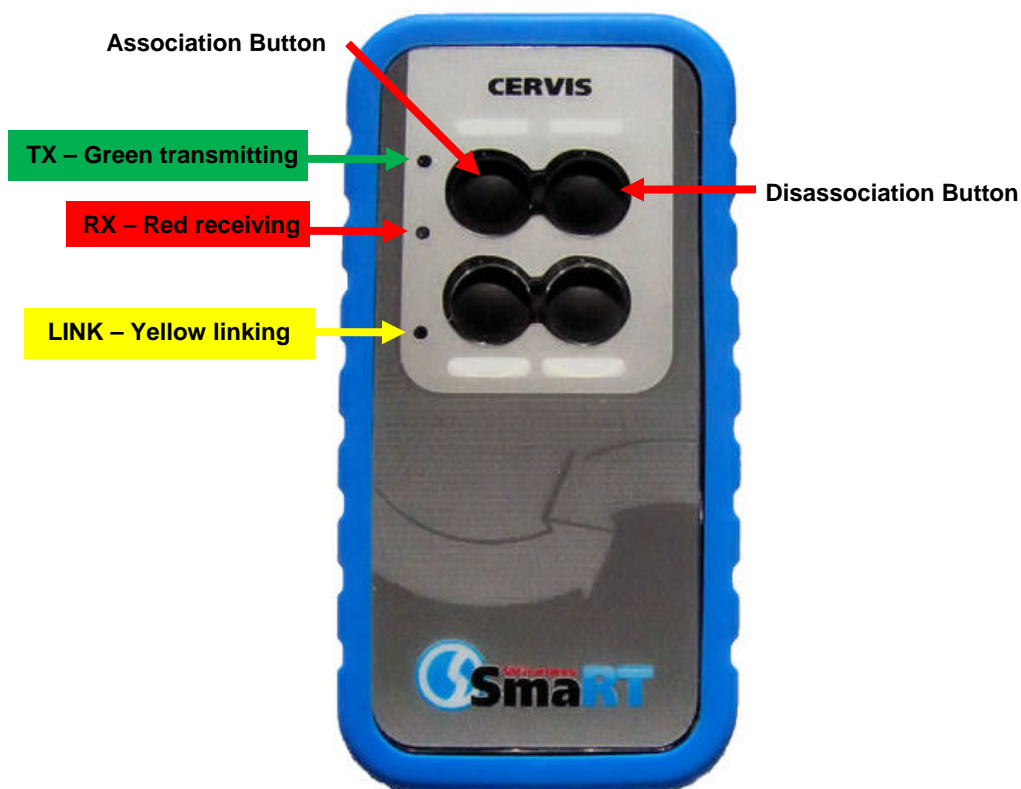

Figure 5. Handheld PTO Buttons
3. Simultaneously press and hold the Association and Disassociation buttons (see Figure 5). The TX LED lights steady green.
5. When the LINK LED flashes yellow, release the two buttons. The RX LED flashes red allowing two (2) seconds for you to make the next button press.
6. Press and hold the Association button (see Figure 5 below). The RX extinguishes, the TX lights steady green, and the LINK LED lights steady yellow.
3. Press and hold both buttons (see Figure 5). TX lights steady green.
5. When LINK flashes yellow, release the two buttons. The RX button flashes red allowing two (2) seconds for you to make the next button press.
6. Press and hold the Disassociation button. (See Figure 5 above.) The RX extinguishes, the TX lights steady green, and the LINK LED lights steady yellow.